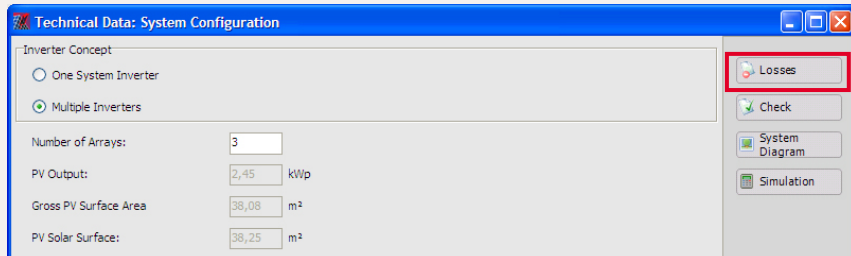

Fig. 2: Access to the Losses menu
1. Under System / Technical Data, open the window Losses (Fig. 2).